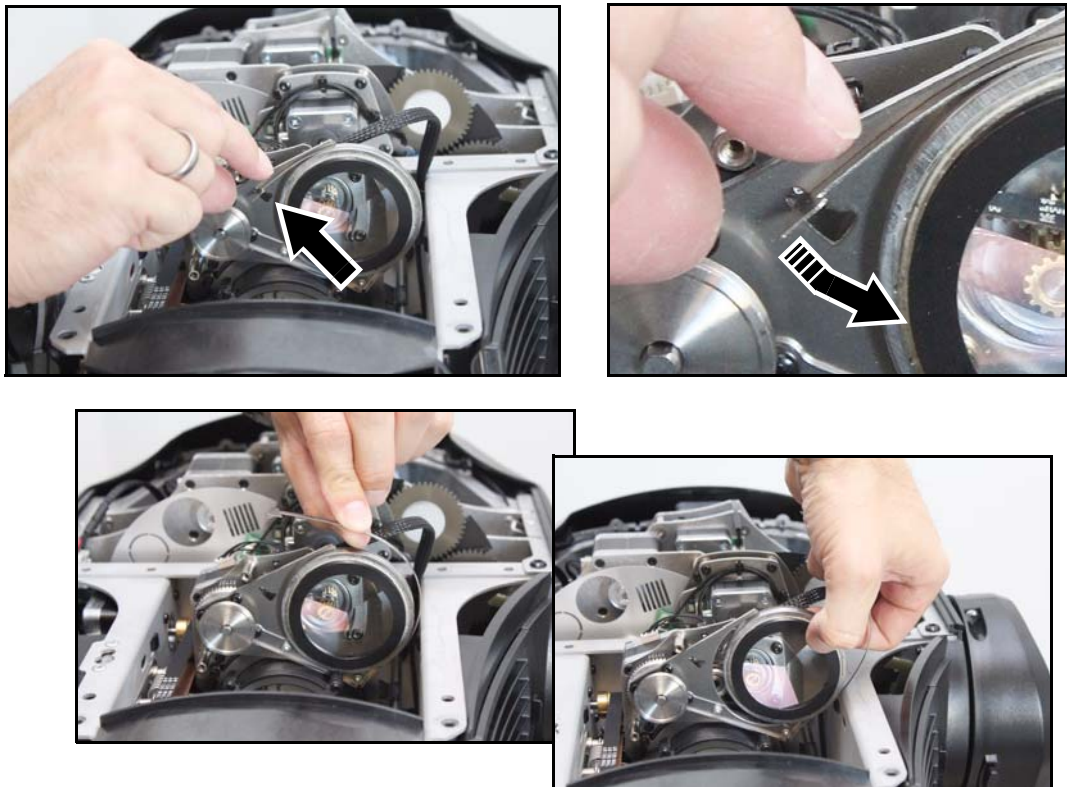

Figure 19: Removing the rotating prism
3. See Figure 19. Push the end of the prism retaining clip down towards the prism until you can release it from its locking slot. Lift the clip up and away from the prism.